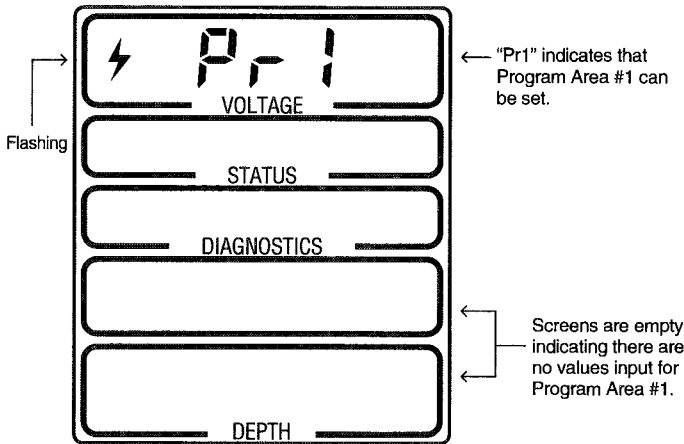

Figure 2.39
2. Press the SELECT button to save the on/off setting selected in step #1. The screen in figure 2.39 will be displayed.